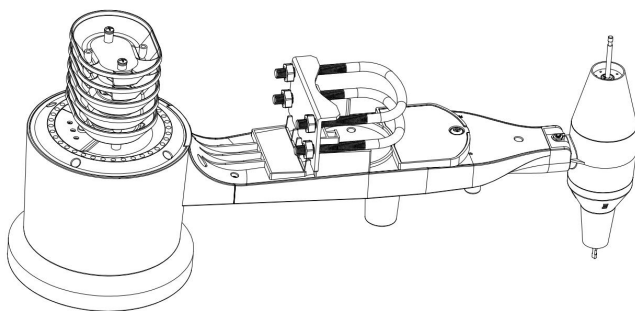

Figure 14: U-Bolts and nuts installed
- ④ Attach the Nuts
- ⑤ For final assembly, refer to Figure 14.